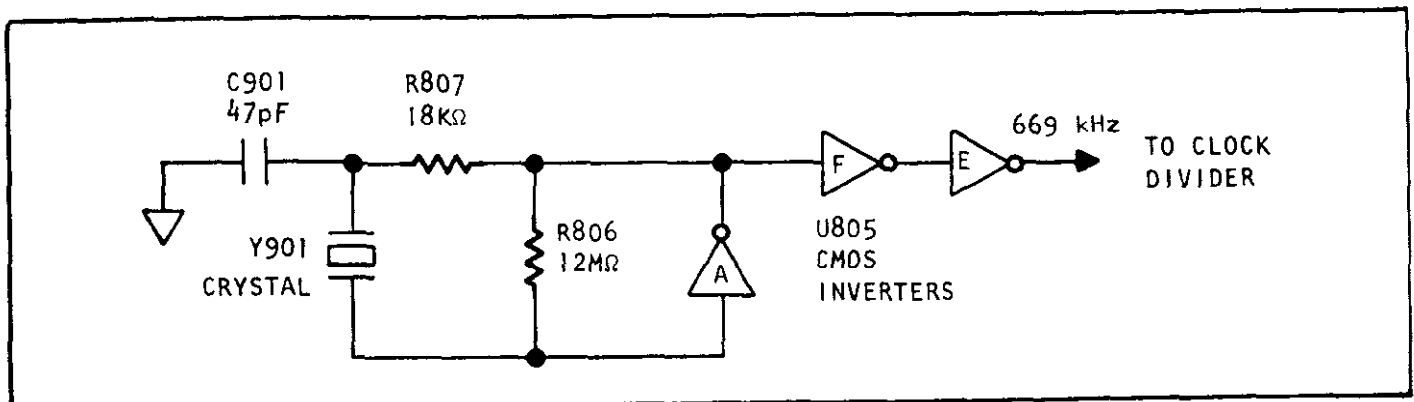

FIGURE 5-15. Simplified Schematic of 669 kHz Oscillator.
f. Oscillator. The oscillator (shown in Figure 5-15) is crystal controlled and operates at approximately 669 kHz. It is divided down 2:1 to produce the A/D converter clock. The oscillator runs at twice the clock rate for the following two reasons: